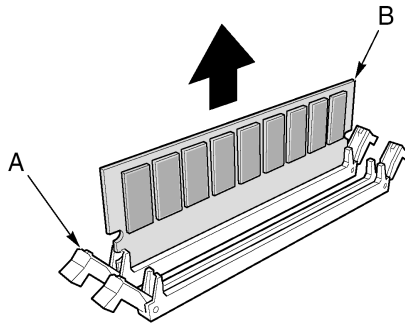

Figure 26 - Removing a DIMM
- 2 Locate the DIMM you want to remove and gently push down on the plastic ejector levers (Figure 26, A) to eject the DIMM from its socket.